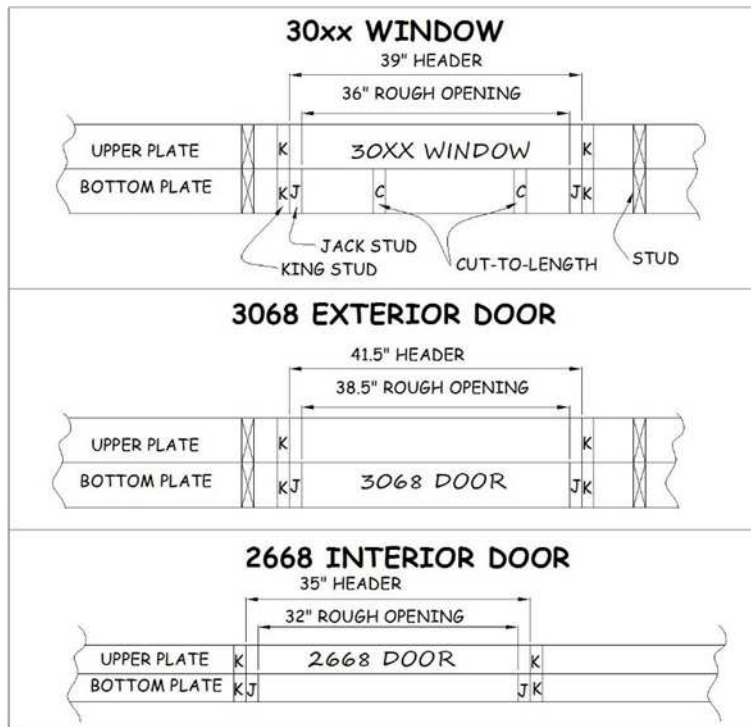
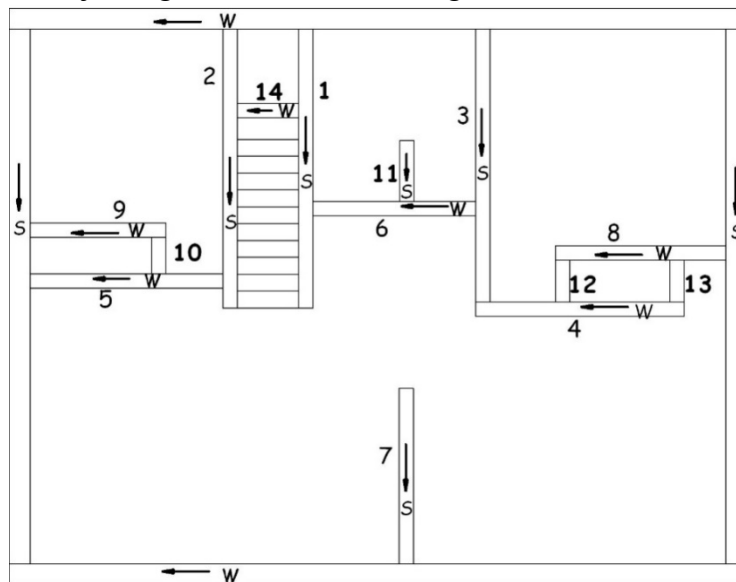

Figure 3-5. Plate Marking for Doors and Windows.
Figure 3-8. Plate Labeling Diagram.
3. Referring to the window or door sizes indicated on the Plate Layout Drawing, measure and mark the location of the King and Jack studs supporting the header (see Figure 3-5). Window and door sizes are indicated with a four-digit code. The first two digits represent the width of the opening in feet and inches. The second two digits represent the height of the opening in feet and inches. For example, a 3040 window is 3'-0" wide by 4'-0" high (i.e., 36" wide by 48" high).
4. Label the King and Jack stud locations with "K" or "J" to specify the location of the pre-built window and door components during wall assembly. The Jack studs will always be to the inside of the King Studs. Stud width is always 1½". Label the location of both King and Jack studs on the bottom plate but label only the King stud on the upper plate (see Figure 3-5).
- a. Mark the inside edge of the upper plate with “UPPER” and the inside edge of the bottom plate with “BOTTOM” (see Figure 3-5). Mark the upper plate with a letter and arrow showing the compass orientation (north, south, east or west) of the plates while lying on the deck (see Figure 3-8).
5. When complete, label upper and bottom plates. Mark compass orientation and label both plates and deck with an identifying number (see Figure 3-8).